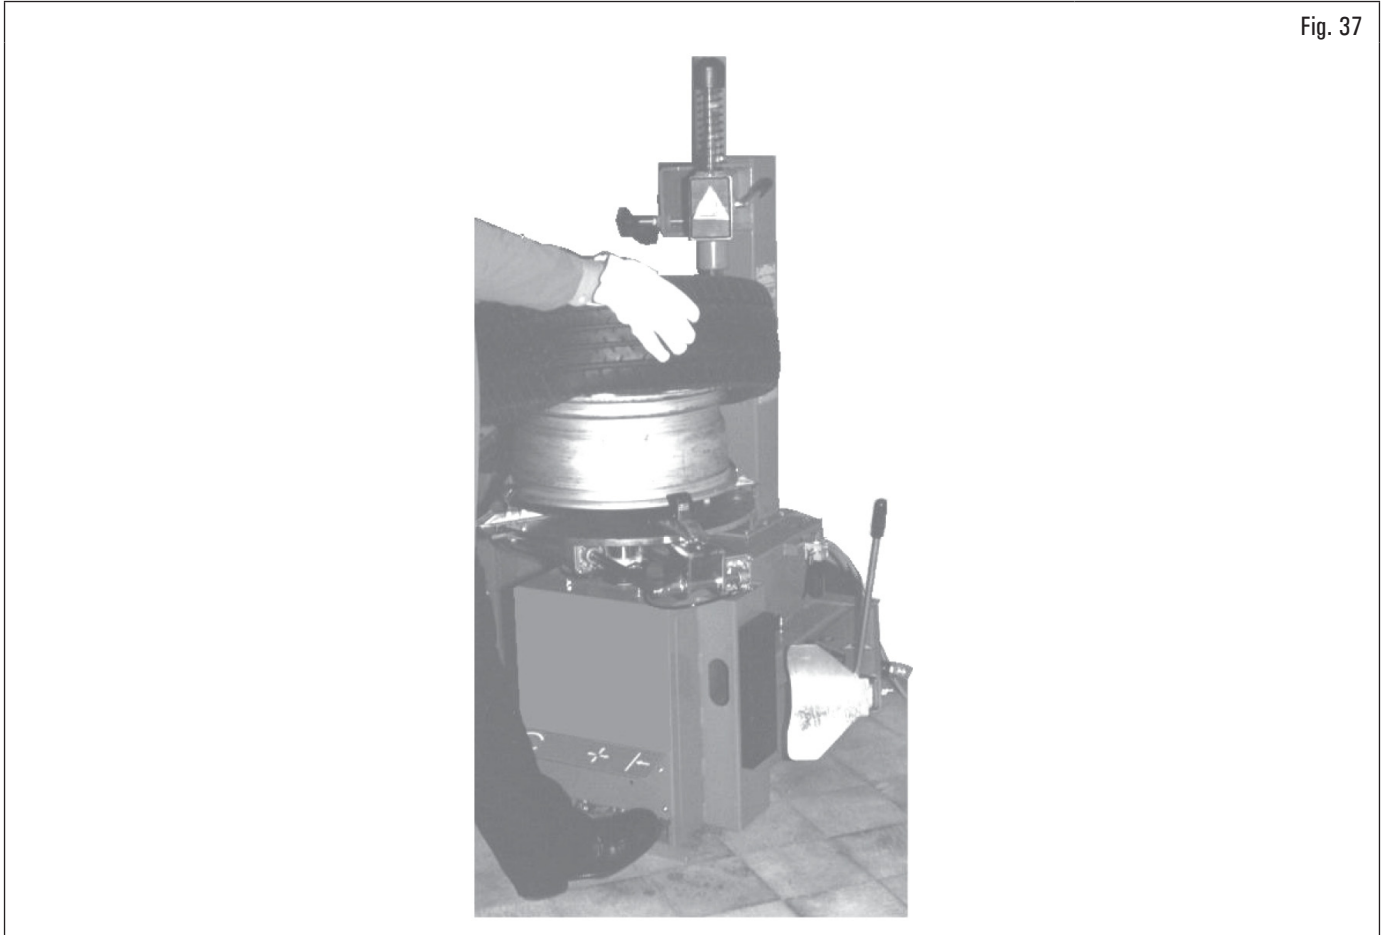

Fig. 37
2. place the tyre on the rim and place the toolhead on the outer edge of the rim (Fig. 37);